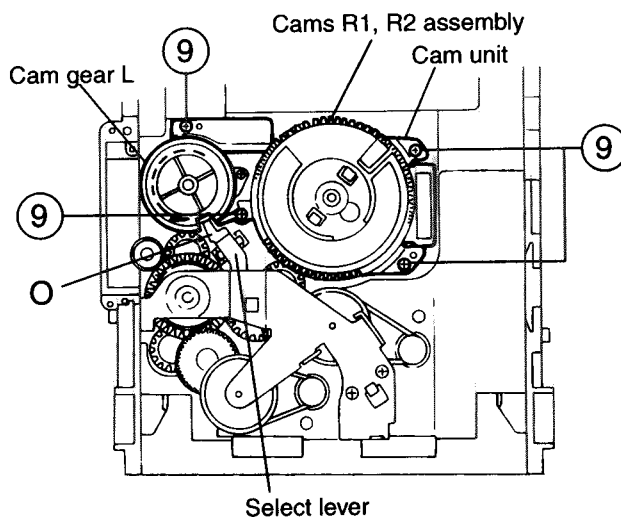

Fig.18
4. While turning the cam gear L, align the pawl "O" position of the select lever to the notch position(Fig.18) on the cam gear L.
5. Remove the four screws 9 retaining the cam unit(cam gear L and cams R1/R2 assembly)(See Fig.18).